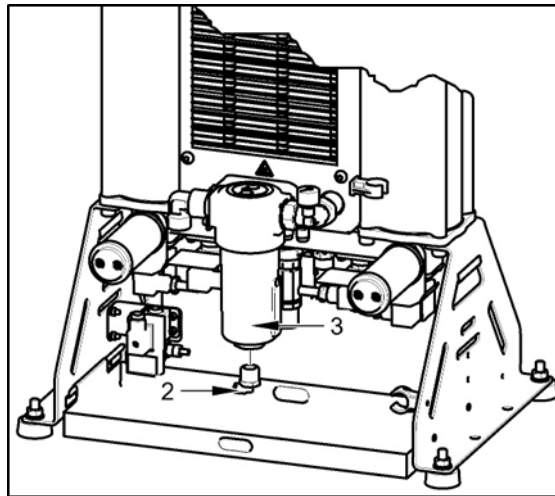

Fig. 26: Venting pressure from the cooler and condensate separator
- Disconnect the hose (2) from the lower part of the condensate separator (3) (Fig. 26).